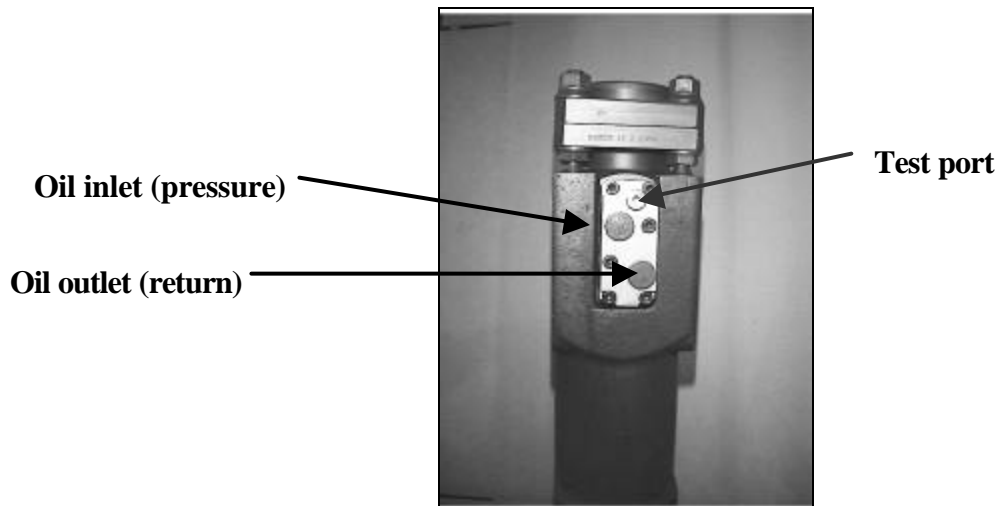

Figure 08-60: Link housing and regulation chip
1. The link housing is secured to the head with six (6) socket head screws. An “O” ring sets un a groove machined into the link housing and seals the mating surfaces (Position 607) (Figure 08-60)
2. A four (4)-position chip fits in the link housing to regulate operating pressure of the breaker. The four positions are 1.5mm, 2.0mm, 2.5mm and 3.0mm.